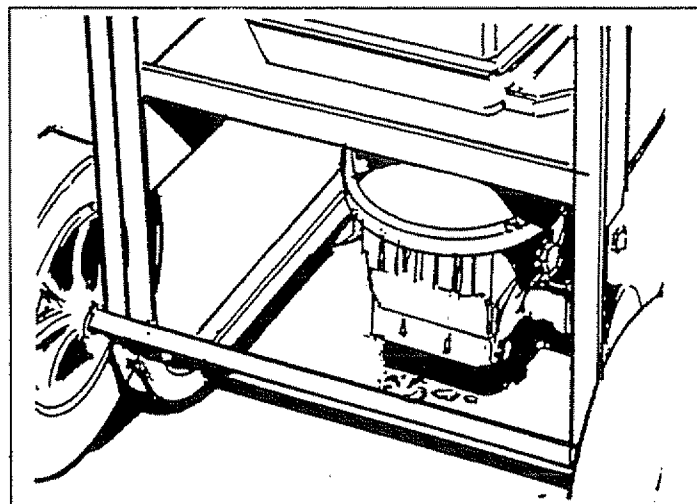

FIG. 11A
**IMPORTANT: DURING THE OPERATION OF THIS PUMP A SMALL AMOUNT OF WATER WILL WEEP FROM THE BOTTOM OF THE PUMP. THIS IS A NORMAL CONDITION AS WATER IS USED TO LUBRICATE THE SEALS IN THE PUMP, SEE FIGURE 11A.**